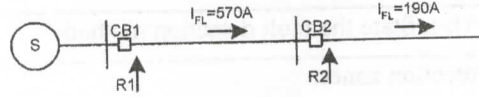

Fig. 4.
- e) Fig. 4 shows an 11 kV, 3-phase radial feeder is protected by two normal inverse overcurrent relays R1 and R2. Determine the turn's ratio for the two CTs, plug setting and time-dial setting of two relays, if the fault current through the feeder is 3000 Amp. Also calculate the time of operation of R1. Two relays have constants of  $A = 0.14$  and  $B = 0.02$ .